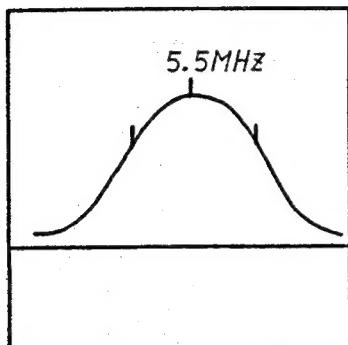

Fig. 11
3. Adjust VR304 so that the 5.5MHz watchs Fig.11.